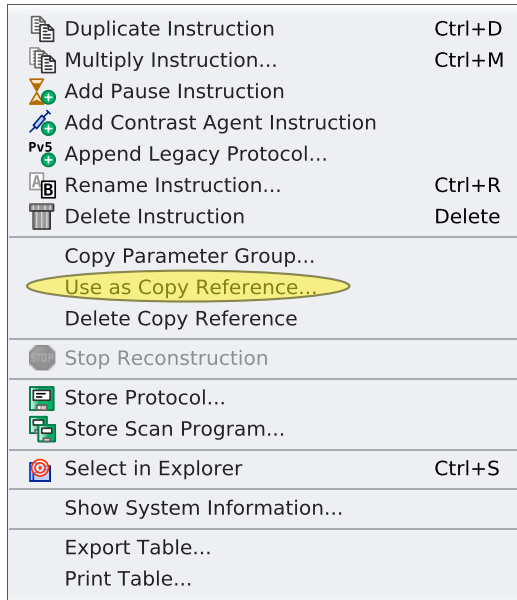

Figure 1.25: Context Menu Examination Card
2. Open the context menu (see Figure 1.25 ▶ 49) and invoke **Use as Copy Reference...**